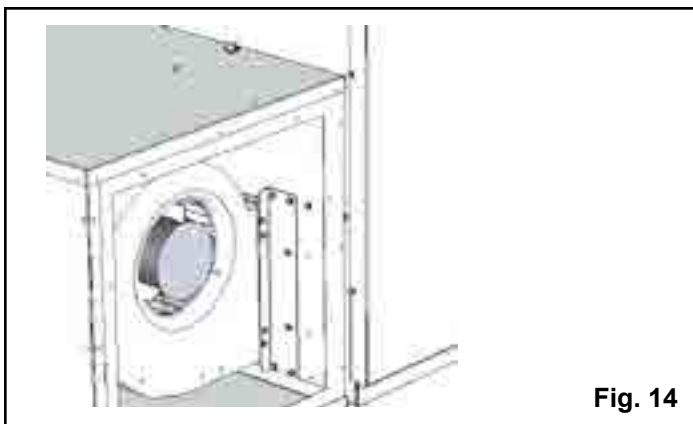

Fig. 14
3. Mount the filter box on the furnace with (6) #10 x 3/4 Tek screws, 3 on each side. Visually locate these holes so you are familiar with their location on the filter box and the furnace. Access to the mounting holes can be gained through the blower access panel cover and the filter opening. See Fig. 14.